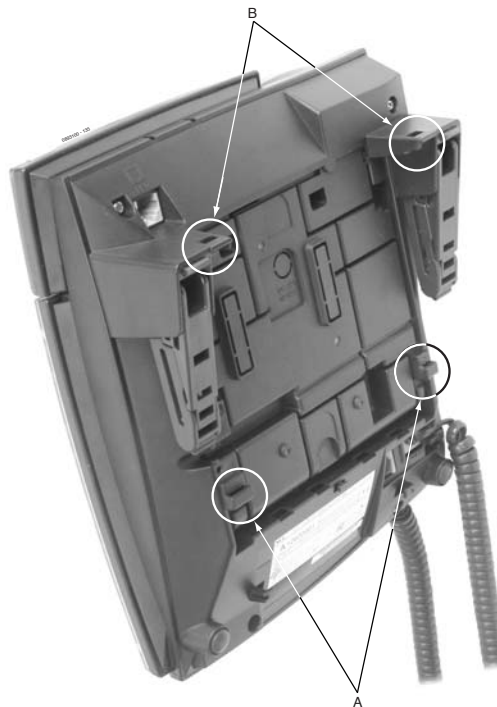

Figure 4-87: BRACKET HOOKS
5. Attach the phone to the wall-mount bracket by inserting the bottom hooks (indicated by “A” in Figure 4-87 *BRACKET HOOKS* on page 4-82) on the bracket into the back of the phone (Figure 4-89).